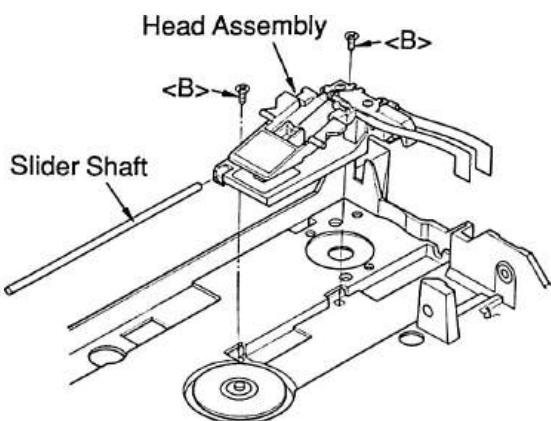

Figure 6
- 3) Remove two screws  holding the head assembly shaft to the chassis unit as shown in Figure 6.
- 4) Remove the head assembly as shown in Figure 6.
- 5) Remove the slider shaft from the head assembly as shown in Figure 6.